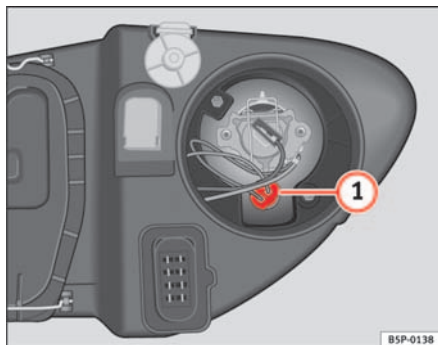

Fig. 187 Side lights
- Extract the lamp holder ⇒ fig. 187 **1** outwards.